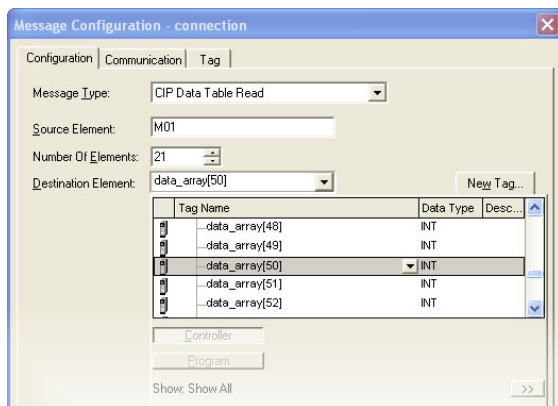

Figure 99: Selecting the Destination Element
- For the Destination Element, either directly type in "data_array[50]", or select element #50 in the data_array tag via the drop-down box (refer to Figure 99). The destination could be any offset in the data_array tag, as long as the offset plus the Number Of Elements (21) does not exceed the tag's defined size (73).